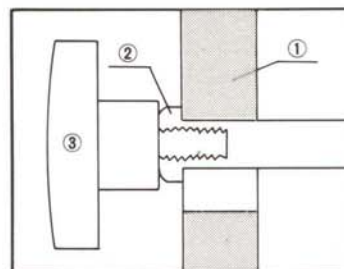

Fig. 11
- 2) To attach a counterweight ①, place it on the mounting pin and push it against the shoulder ② of the pin.
Now screw knob ③ into mounting pin. (Fig. 11)